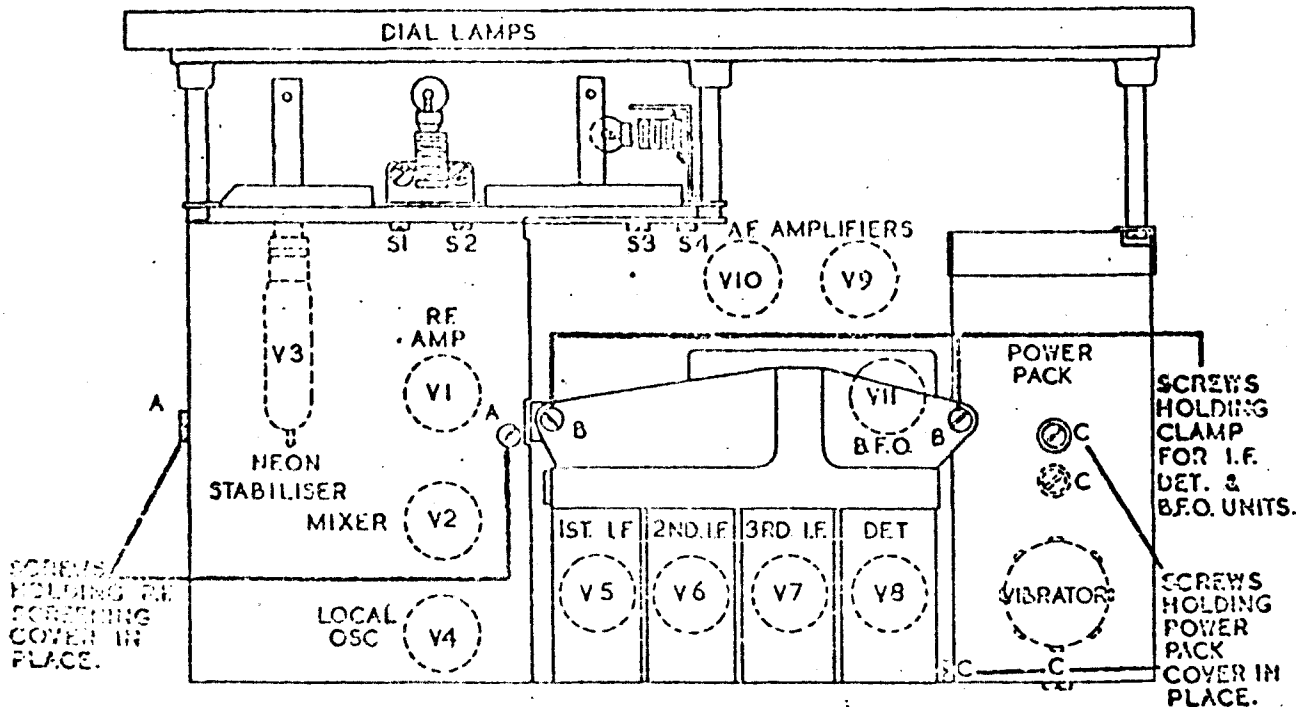

FIG. 8 - PLAN VIEW SHOWING VALVE POSITIONS
- (b) Vibrator. A faulty vibrator may be the cause of the set being "dead" after it has been switched ON. Remove the power pack screening case by unscrewing the four screws marked (C) in Fig. 8. Plug in new vibrator and replace screening case.
- (c) Pilot lamps. If a pilot lamp fails to light while the rest of the set is working, try replacing it with a spare lamp. The main dial lamp and holder can be removed by unscrewing and taking out the two screws S1 and S2 (Fig. 8). The vernier dial lamp and holder are attached to a bracket and to change the lamp the screws S3 and S4 must be removed when the bracket, holder and lamp can be drawn clear. Do not disconnect or put any strain on the leads to lamp holders.
- (iv) The positions of the valves are indicated in Fig. 8. To change the R.F. (V1), mixer (V2), neon stabiliser (V3) or local oscillator (V4) valves, remove the two fixing screws marked (A) at the left of Fig. 8 and take off screening cover. To change an I.F. (V5, V6 or V7), BFO (V11) or DET (V8) valve, remove the two screws marked (B) in Fig. 8, which clamp the units in position. Unplug unit from the chassis and take off the screening can after first removing the fixing screws, one on each of the narrow sides of the can. The valve may then be renewed, and cans and clamping cover, re-fixed in position.